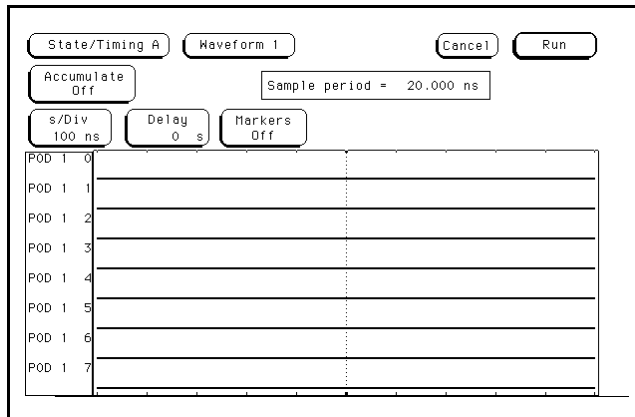

Figure 3-43. Waveform Screen
8. Touch **Run**. Data displayed on the Waveform screen should be all low for the channels under test as shown in figure 3-43.
13. Touch **Run**. Data displayed on the Waveform screen should be all low as in previous figure 3-43.
18. Touch **Run**. Data displayed in the Waveform screen should be all low for pod under test as in figure 3-43.